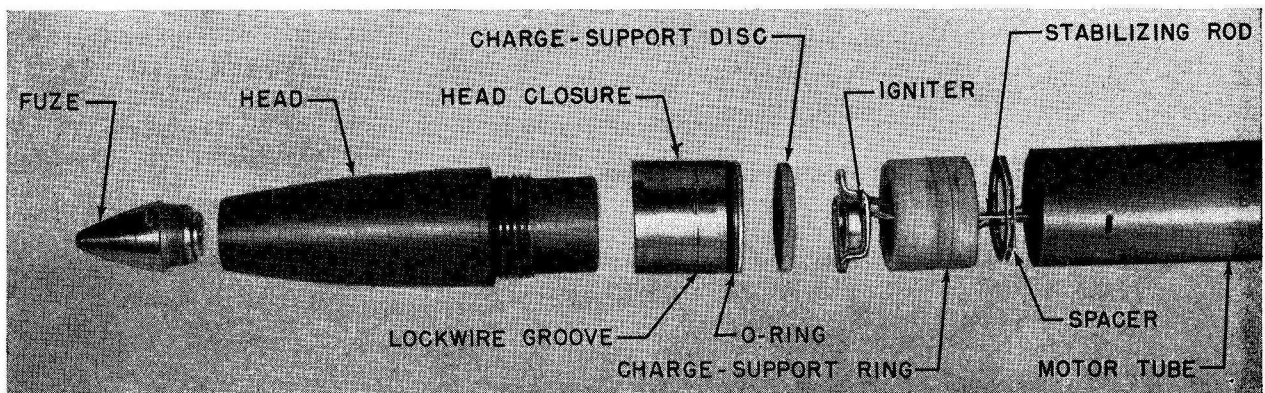

Figure 2—Exploded View of Head and Forward End of Motor.
The head, figure 2, is an ogival steel case threaded internally at the forward end for attach-
**Head closure.** The cup-shaped steel head closure, figure 2, is about  $2\frac{1}{2}$  inches long and  $2\frac{1}{2}$  inches in diameter. The closure fits into the motor tube with the open end facing forward. It is attached to the tube by a lockwire fitted through a slot in the tube into mating grooves located on the inside of the motor tube and the outside of the sleeve portion of the closure. The
**Charge-Support Ring.** The charge-support ring, figure 2, is a resilient hollow cylinder of glass fiber located at the forward end of the charge. This ring has a dual function. It provides spring action that keeps the charge firmly supported in the motor tube, and it acts as a shock absorber for the charge if the motor (or round) is dropped.
**Charge-Support Disc.** The charge-support disc, figure 2, is a cushion of glass fiber between the igniter and the base of the head closure.
**Spacer.** The spacer, figure 2, is a double steel ring about 2½ inches in diameter, located between the charge-support ring and the forward end of the propellant grain.
**Igniter.** The igniter, figure 2, is a thin-walled tin can about ½ inch in length and 1½ inches in diameter. It has a blowout plug in its after face and is filled with a mixture of black powder and magnesium powder. An electric squib containing wire bridge imbedded in an ignition compound initiates the igniter. Two lead wires from the igniter pass aft through the perforation of the grain to the nozzle-fin assembly, where one wire